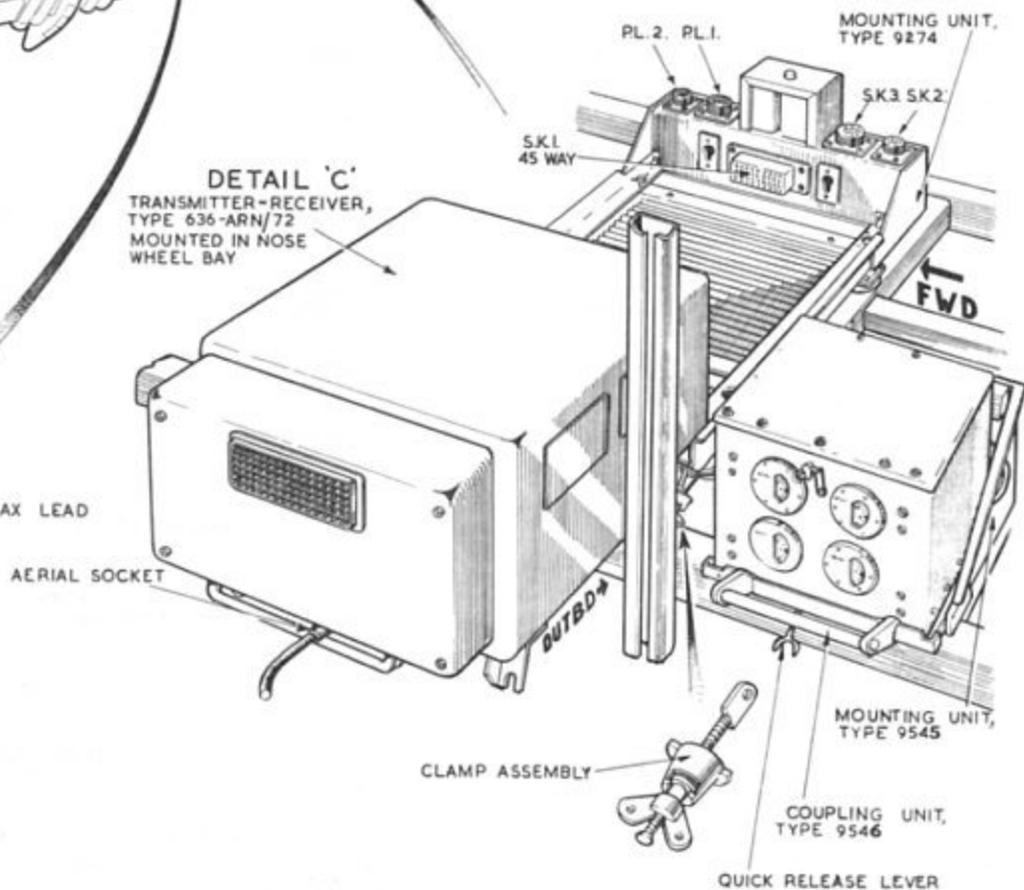

Fig.1 Location of equipment
3. The transmitter-receiver, Type RT 636-ARN/72, and coupling unit, Type 9546, are both fitted in the nose wheel bay, and the aerial omni, Type 4169 (Pre Mod 2465), or Type 10-222-8 (Post Mod 2465) is fitted to the starboard nose wheel bay door. A location diagram of the equipment is contained in Fig.1 and a routing chart in Fig.3. Full descriptive and servicing information on the complete system can be found in AP 116B-0304-1.
The location of the above equipment in the aircraft is illustrated in fig.1. A full description of the individual units is contained in A.P.116B-0304-1.